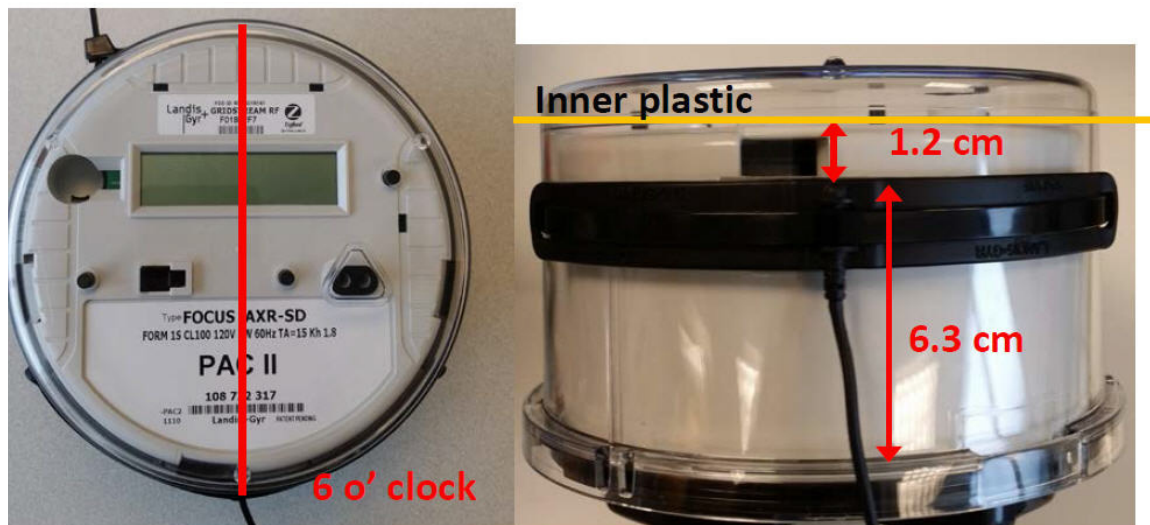

Figure 2. Installation On FOCUS AX/AX-SD Meters
3. **Firmly press the center of the antenna to the bottom (6 o'clock position) of the meter while aligning the upper edge of the antenna 1.2 cm below the inner plastic as shown in Figure 2.**